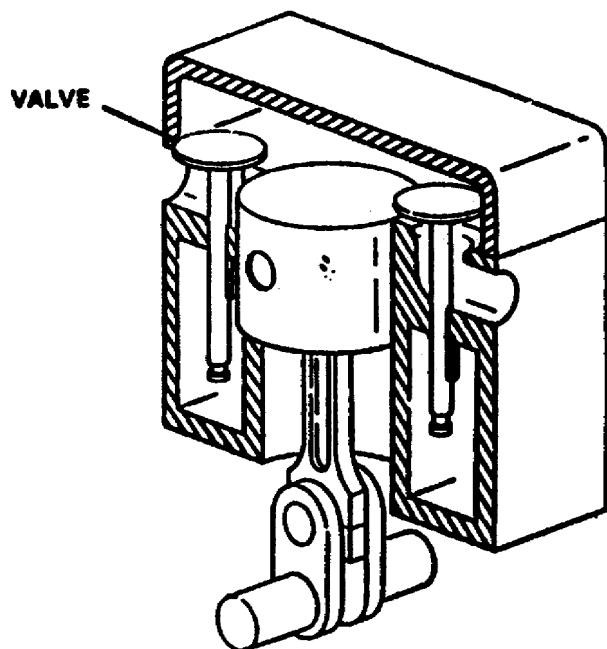

Figure 1-5. Intake and Exhaust Valves.
(4) Valves. There are two valves (Figure 1-5) at the top of the cylinder. A valve is an accurately machined plug that fits into a machined opening at the top of the cylinder. When the valve is resting in this position, it is said to be seated. When a valve is so positioned, it is closed and the opening is sealed off. When the valve is pushed off its seat, it is opened. The valves in the cylinder are closed part of the time and opened part of the time. One of the valves, called the intake valve, opens to admit a mixture of fuel and air into the cylinder. The other valve, called the exhaust valve, opens to allow the escape of burned gases after the fuel and air mixture has burned. Valves are opened by the camshaft rotation and closed by a spring.